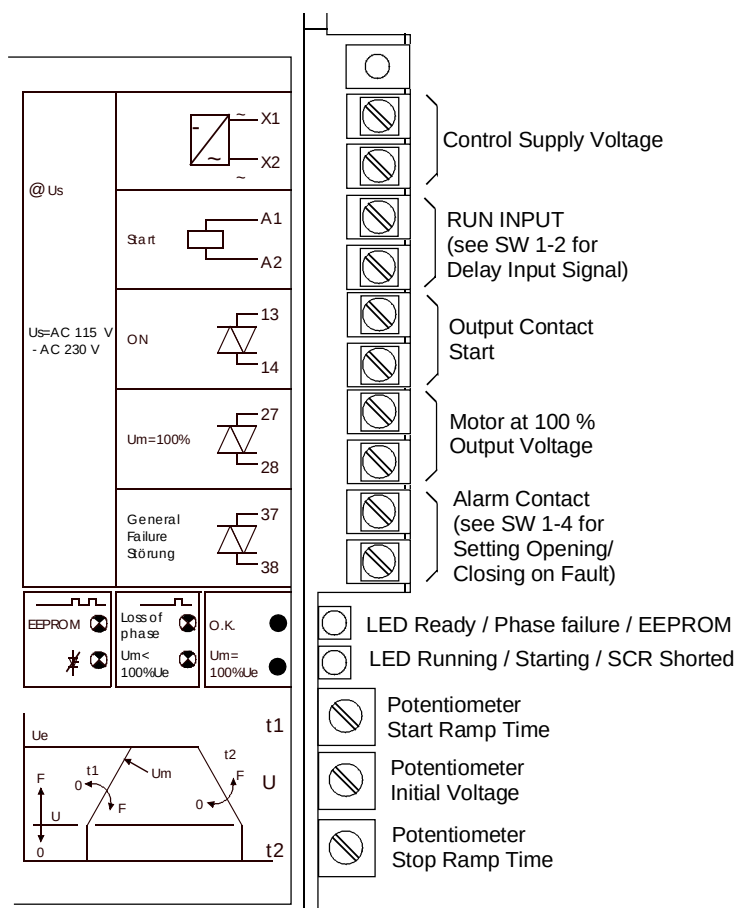
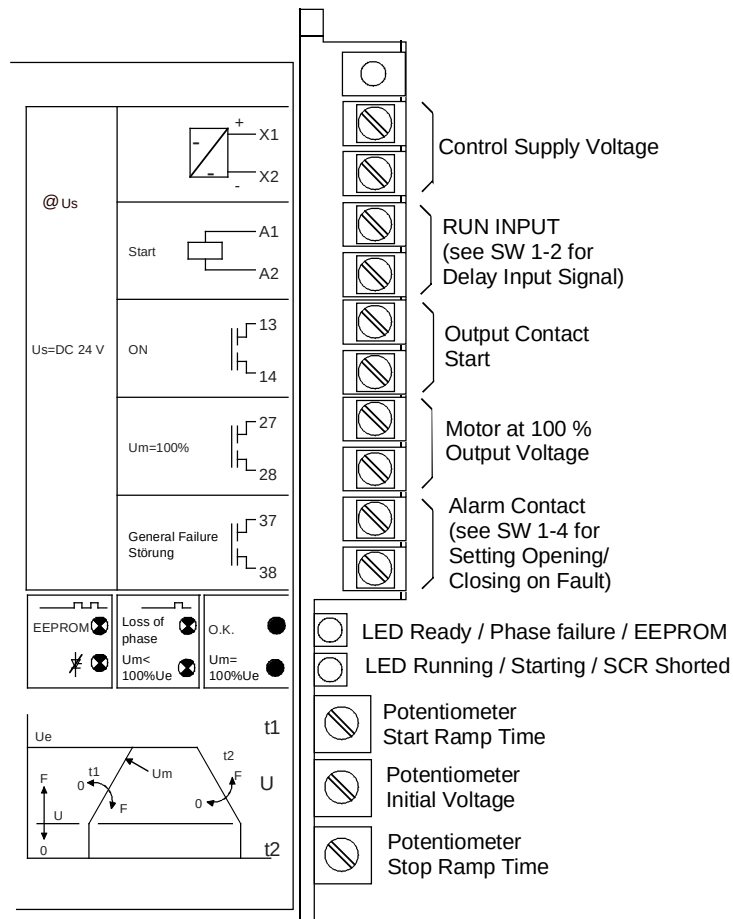

Fig. 2 : SIKOSTART Control Terminals with Us AC 115 V and AC 230 V
Fig. 3 : SIKOSTART Control Terminals with Us DC 24 V
1. The control supply voltage U_s and the supply voltage for the control inputs and outputs must be connected in accordance with the specifications on the rating plate of the soft starter (see Fig. 2 and Fig. 3).